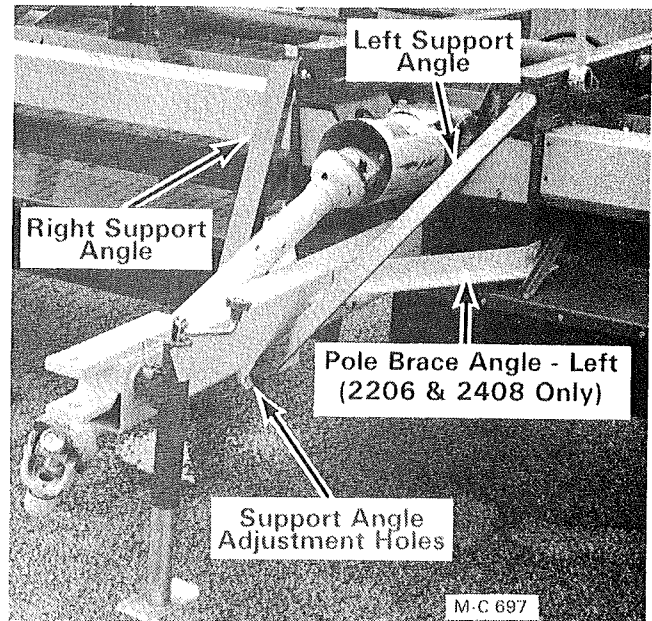

Figure 6
3. **Model 2206 & 2408** - Install the pole brace angles, see Figure 6. Use  $\frac{3}{4}$ " - 10 x 2 $\frac{1}{2}$ " capscrews, lockwasher and nuts.